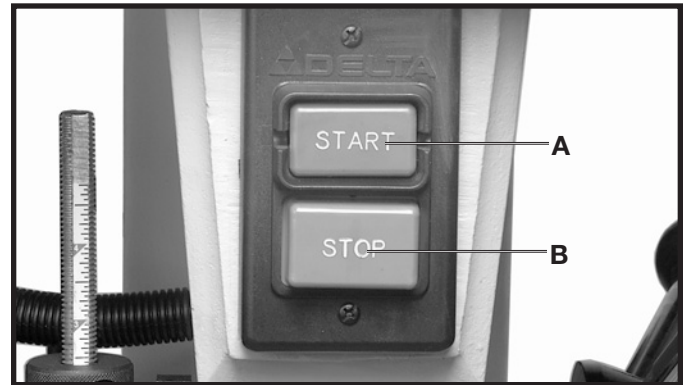

Fig. 19
The power switch is located at the front of the drill press head. To turn the machine on, press the green start button (A) Fig. 19. To turn off the drill press, push the red stop button (B).